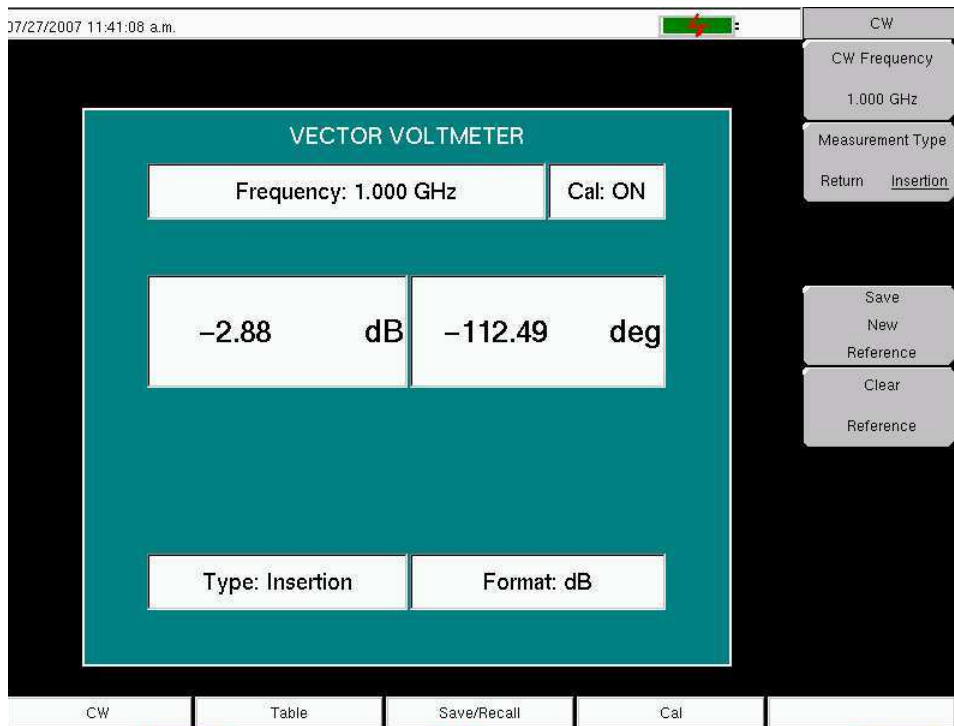

Figure 8-4. Continuous Wave Menu
- Connect the DUT for measurement. The display should appear similar to the image in Figure 8-4.